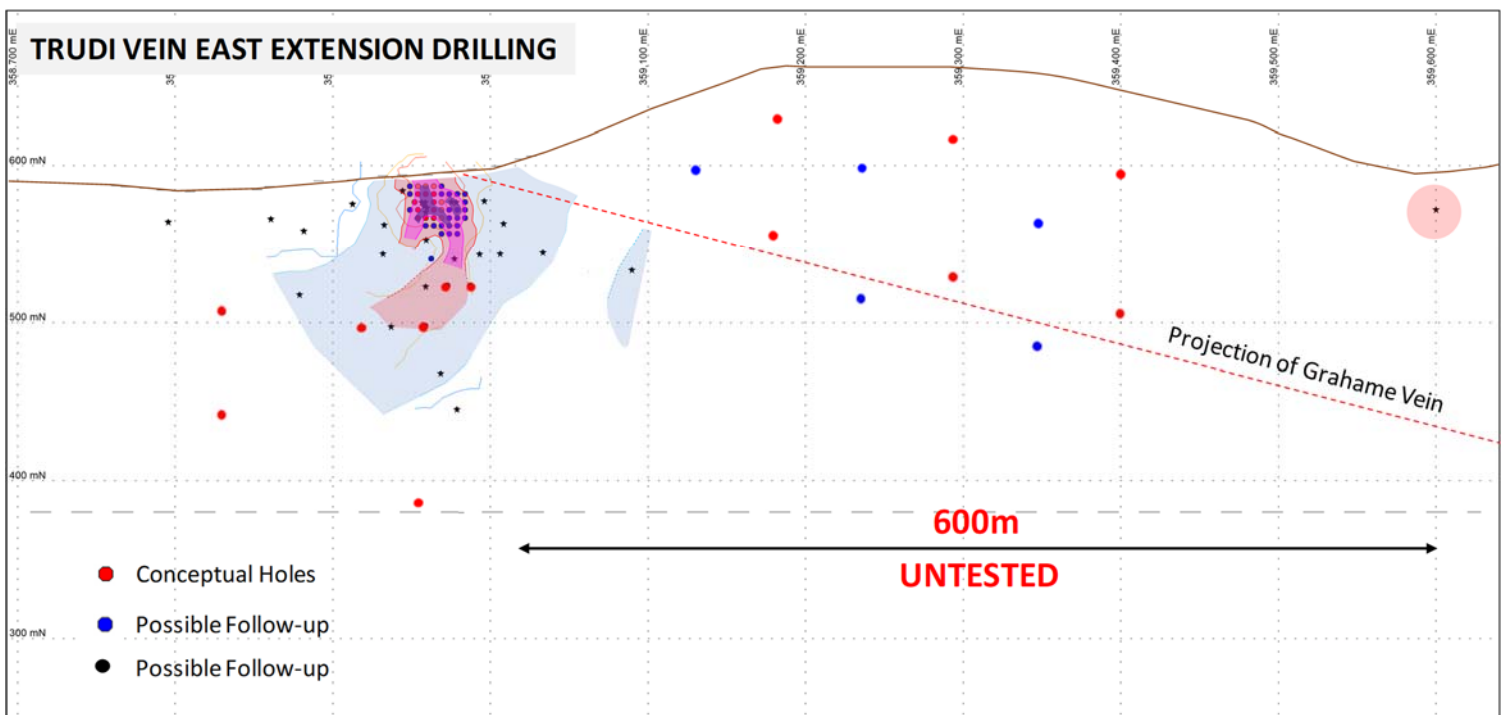

Figure 4 Long Projection of the known extents of the Trudi Vein with 600m of untested strike east of the main prospect area.
- Exploration drilling to test the 600m of undrilled strike east of the main Trudi deposit with 4m @ 0.95g/t including 1m @ 3.36g/t Au (ASX 20/12/17) intersected 600m from previous drilling (Figure 4).